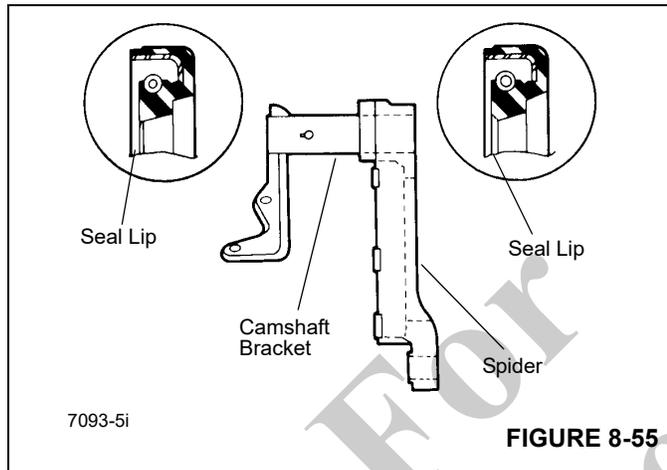

FIGURE 8-55
2. Install new camshaft seals and, if required, bushings in both the spider and camshaft bracket (Figure 8-55). Use a seal driver to install the bushings.